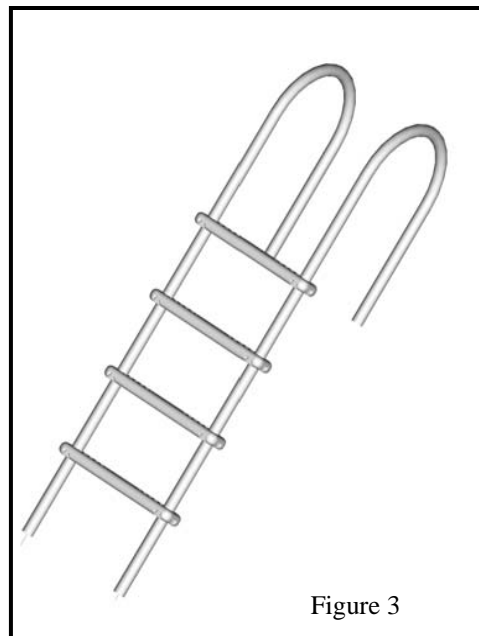

Figure 3
- Slide the remaining 3 steps onto the handrails and secure them with nuts and bolts. See figure 3